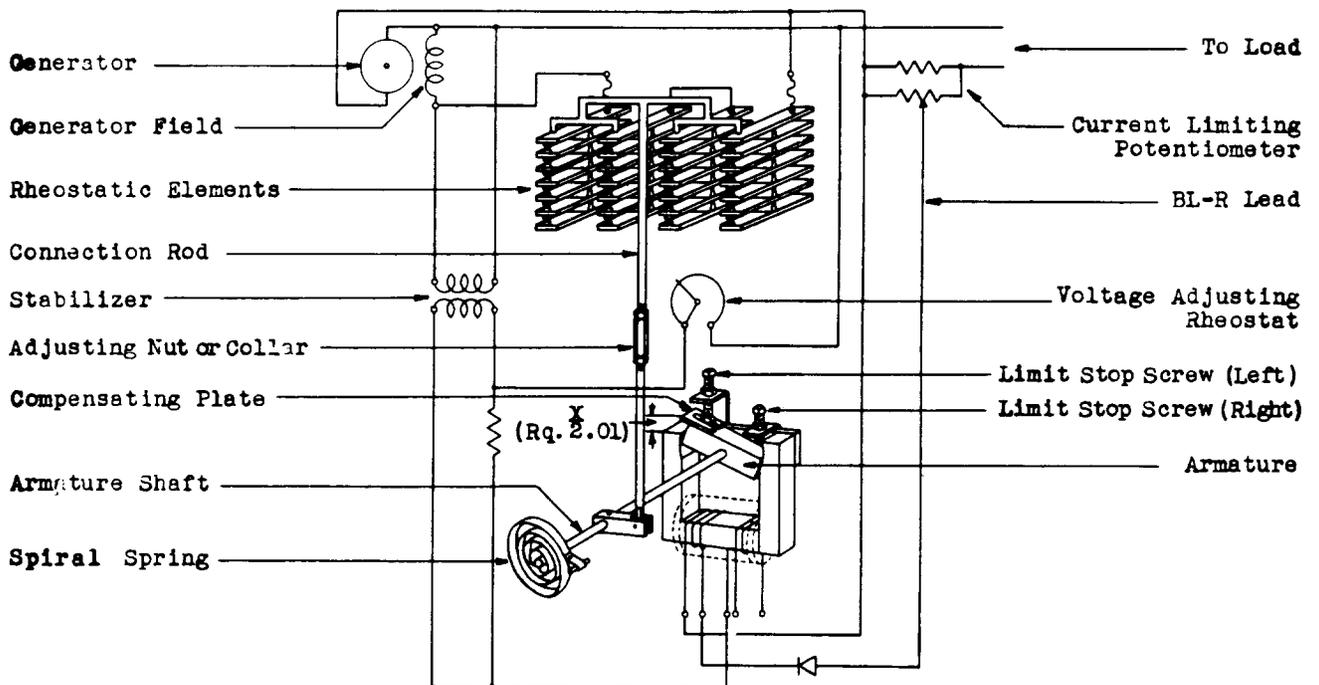

Fig. 1 - Typical Schematic Circuit
(4) On the GDA-1M type units, provided the alternator voltage does not remain constant or nearly so within the specified limits there is a compensating plate at the left of the regulator armature (see Fig. 1) by means of which the compounding may be changed. If the voltage drops as the load increases, (with a corresponding increase in exciter voltage) this plate should be moved to the left (when facing the regulator). If the voltage rises with an increase in load, move the plate to the right. Care should be taken to see that the plate is moved only in small increments and not far enough to make the regulator unstable. On GDA-30 regulators, should the a-c voltage fall as load is applied the exciter field rheostat may be set for a slightly higher no load voltage. If the voltage tends to be somewhat unstable the exciter field rheostat may be set for a slightly lower no load exciter voltage.
(5) Any tendency of the regulator to hunt (if present) should be at light loads rather than at full load. To overcome hunting move the limit stop screw (left) of GDA-1M regulators to bring the armature nearer to its minimum or maximum position as outlined in requirement 2.01 or by adjusting the stabilizing adjusting rheostat in the auxiliary box (GDA-30 regulators), or by shortening the connection rods slightly. The correct position to give the least hunting may be determined by trial.
(6) Should the a-c regulated voltage become unstable during operation, such as after a severe overload or short circuit or after the exciter field circuit has been known to have been open circuited, check to see that the polarity of the exciter has not been reversed, but conforms with the polarity as indicated on the circuit drawing. If the polarity is reversed, stop the set, remove the exciter brushes and apply approximately 48 volts or more of battery to the exciter field with the correct polarity (plus battery to plus terminal and negative battery to minus terminal)